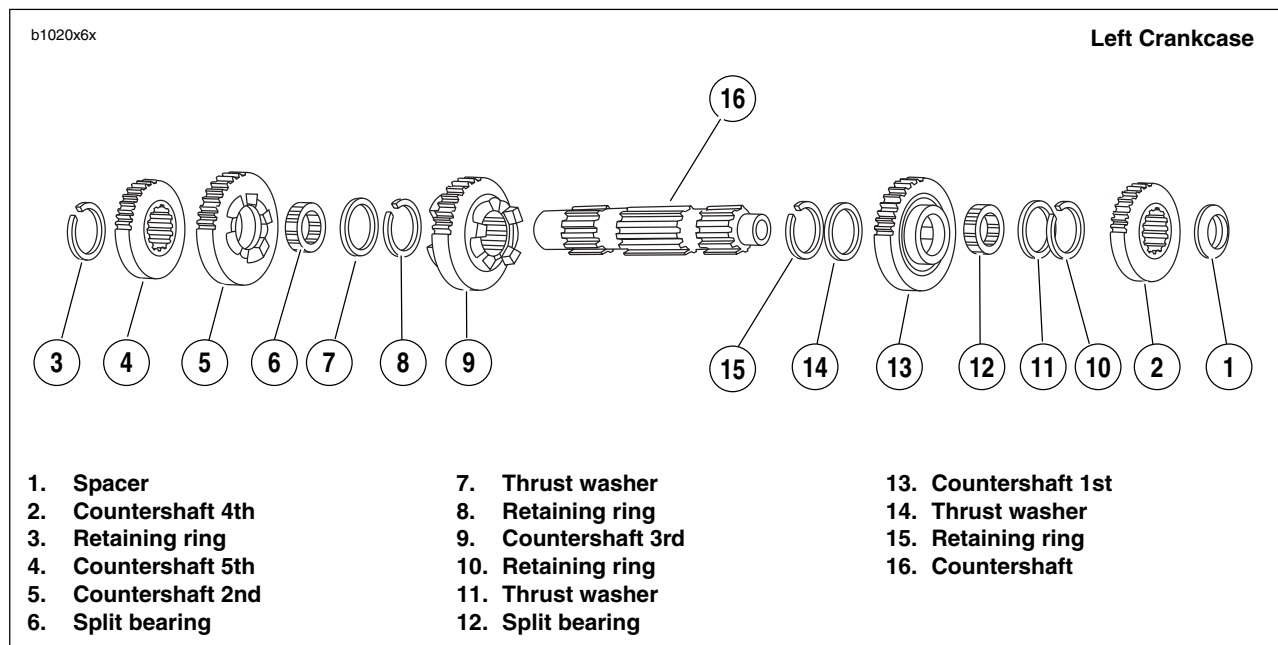

Figure 6-65. Transmission Countershaft Assembly Once Removed from Left Crankcase/Disassembly
- See Figure 6-65. Remove spacer (1) and countershaft 4th gear (2) from the end of the of the countershaft with internal threads.
- Using RETAINING RING PLIERS (Part No. J-5586), remove and discard retaining ring (3) next to countershaft 5th gear (4).
- Slide countershaft 5th (4), and countershaft 2nd (5) off end of countershaft.
- Remove split bearing (6) that was under countershaft 2nd gear (5) and thrust washer (7).
- Remove retaining ring (8) on the countershaft and slide countershaft 3rd gear (9) off free end of countershaft.
- Expand retaining ring (10) located next to countershaft 1st gear (11). Remove retaining ring (10) and thrust washer (11).
- Slide countershaft 1st gear (13) off end of shaft.
- Remove split bearing (12).
- Remove thrust washer (14). Expand remaining retaining ring (15) and slide off countershaft.